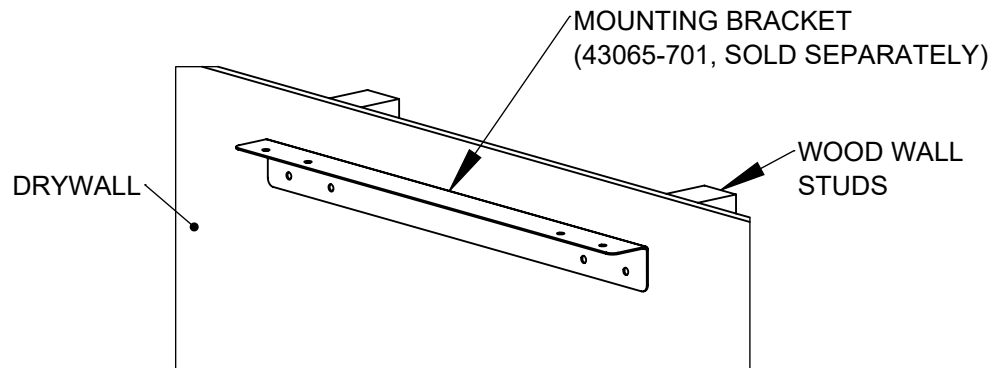

Fig. 1
The Rear Chassis (Fig. 2) mounts to the wall using (4) Lag Screws in the orientation shown. An optional Mounting Bracket (Fig. 1) (43065-701) is sold as a separate accessory and can be used for ease of installation.
3. Using an M13 Socket Driver, screw (2) Lag Screws into the pilot holes of the drywall with the screw heads protruding about 3/8" from the wall.
4. Hang the Rear Chassis on the Lag Screws using the keyhole slots on the backside. Using the 4mm Drill Bit, drill pilot holes into the wood studs through the bottom (2) keyhole slots of the Rear Chassis.
5. Using an M13 Socket Driver, screw the remaining (2) Lag Screws into the bottom pilot holes. Tighten down all Lag Screws to secure to the wall.